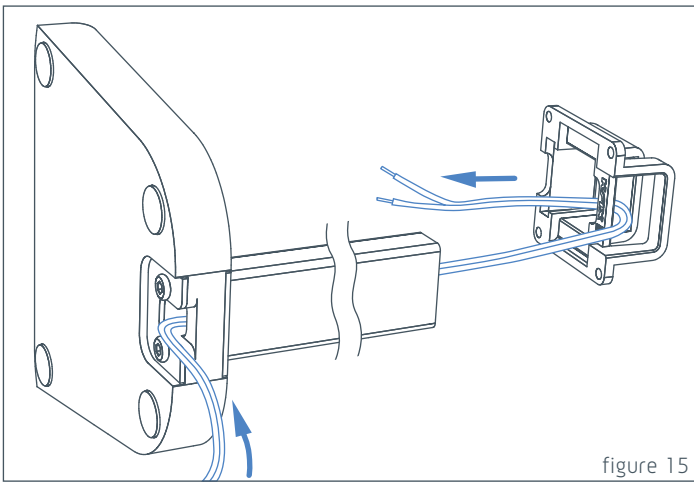

figure 15
- Feed speaker cable through hole in base of stand and out through top of post. (figure 15)
- Feed cable through speaker bracket. (figure 15)